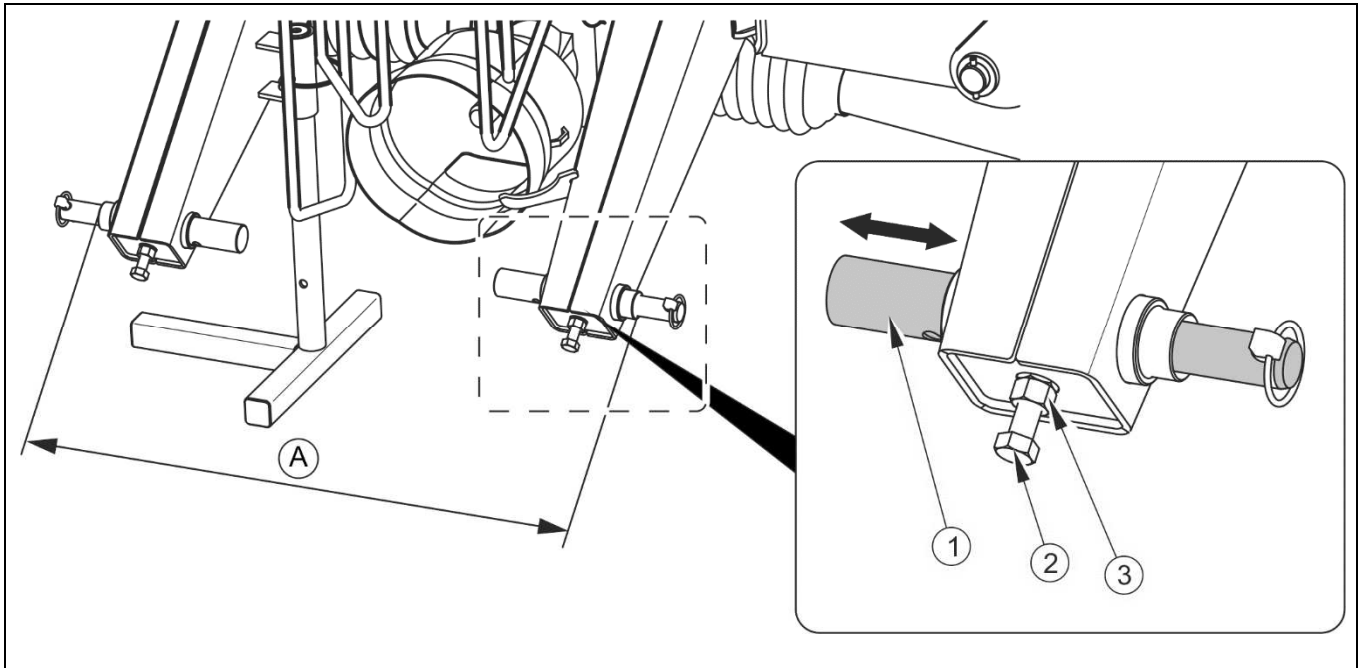

FIG. 4.2 Adjustment of mower lower mounting pins
Lower pins (1) of the mower linkage enable spacing adjustment (*FIGURE 4.2*) in range 795 - 970 mm. To change spacing of linkage pins:
- ➔ Loosen counter nut (3),
- ➔ Unscrew setting bolt (2),
- ➔ Move pin (1) to the right or the left to obtain the required spacing,
- ➔ Block pin position with setting bolt (2) and counter nut (3)